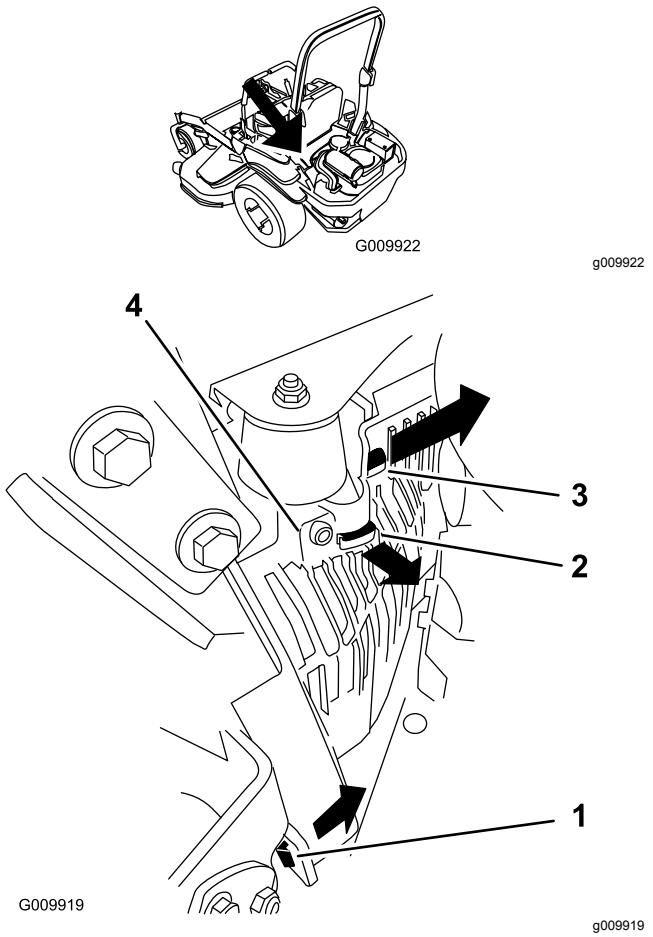

Figure 53
3. Remove the left hydraulic-unit shroud in the order listed in Figure 53.
5. Install the left hydraulic-unit shroud (Figure 53).